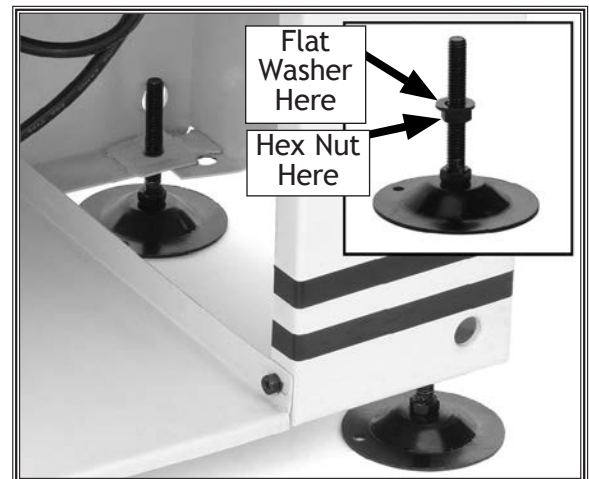

Figure 12. Installed feet.
5. Thread one 3/8"-18 hex nut and install one 3/8" washer onto each threaded foot shaft (see **Figure 12**).
6. Thread the foot shafts into the underside of the bandsaw cabinet (see **Figure 12**).